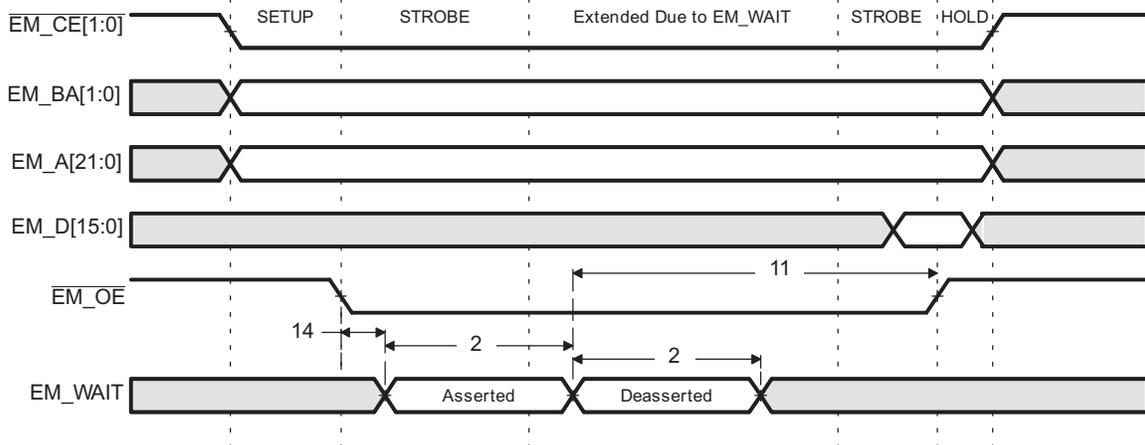
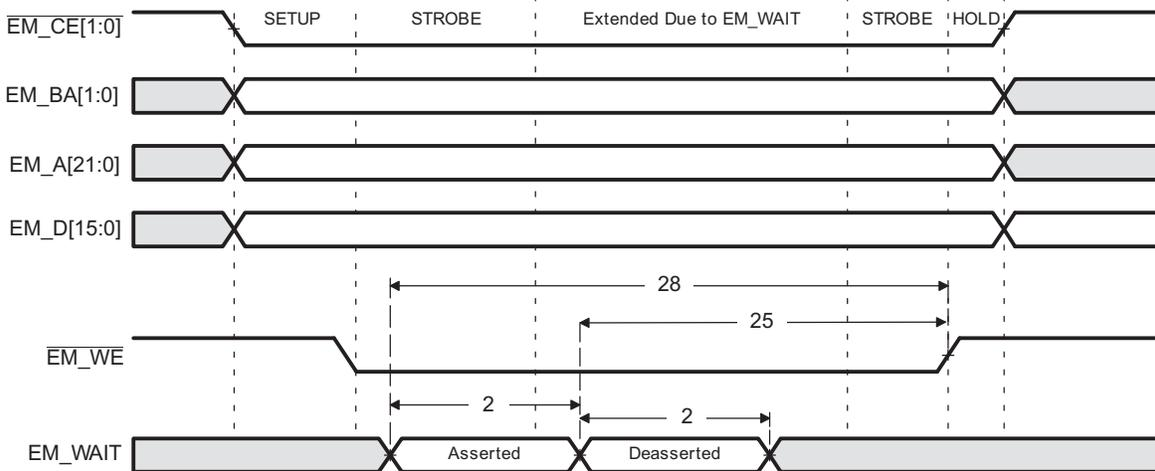

Figure 6-15. EM_WAIT Read Timing Requirements
Figure 6-16. EM_WAIT Write Timing Requirements
(2) Setup before end of STROBE phase (if no extended wait states are inserted) by which EM_WAIT must be asserted to add extended wait states. Figure 6-15 and Figure 6-16 describe EMIF transactions that include extended wait states inserted during the STROBE phase. However, cycles inserted as part of this extended wait period should not be counted; the 4E requirement is to the start of where the HOLD phase would begin if there were no extended wait cycles.